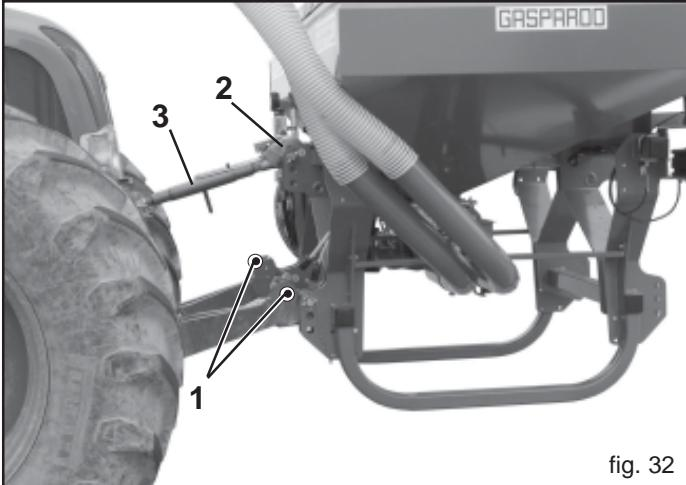

fig. 32
- 1) Hook the lifter bars onto the pins provided (1, Fig. 32) Block with the snap split pins. Hook the chains to the lifting bars
- 2) Connect the third upper point (2, Fig. 32); the pin will be blocked with the appropriate split pin; use the adjusting tierod (3, Fig. 32) to keep the equipment perpendicular to the ground (Fig. 34)